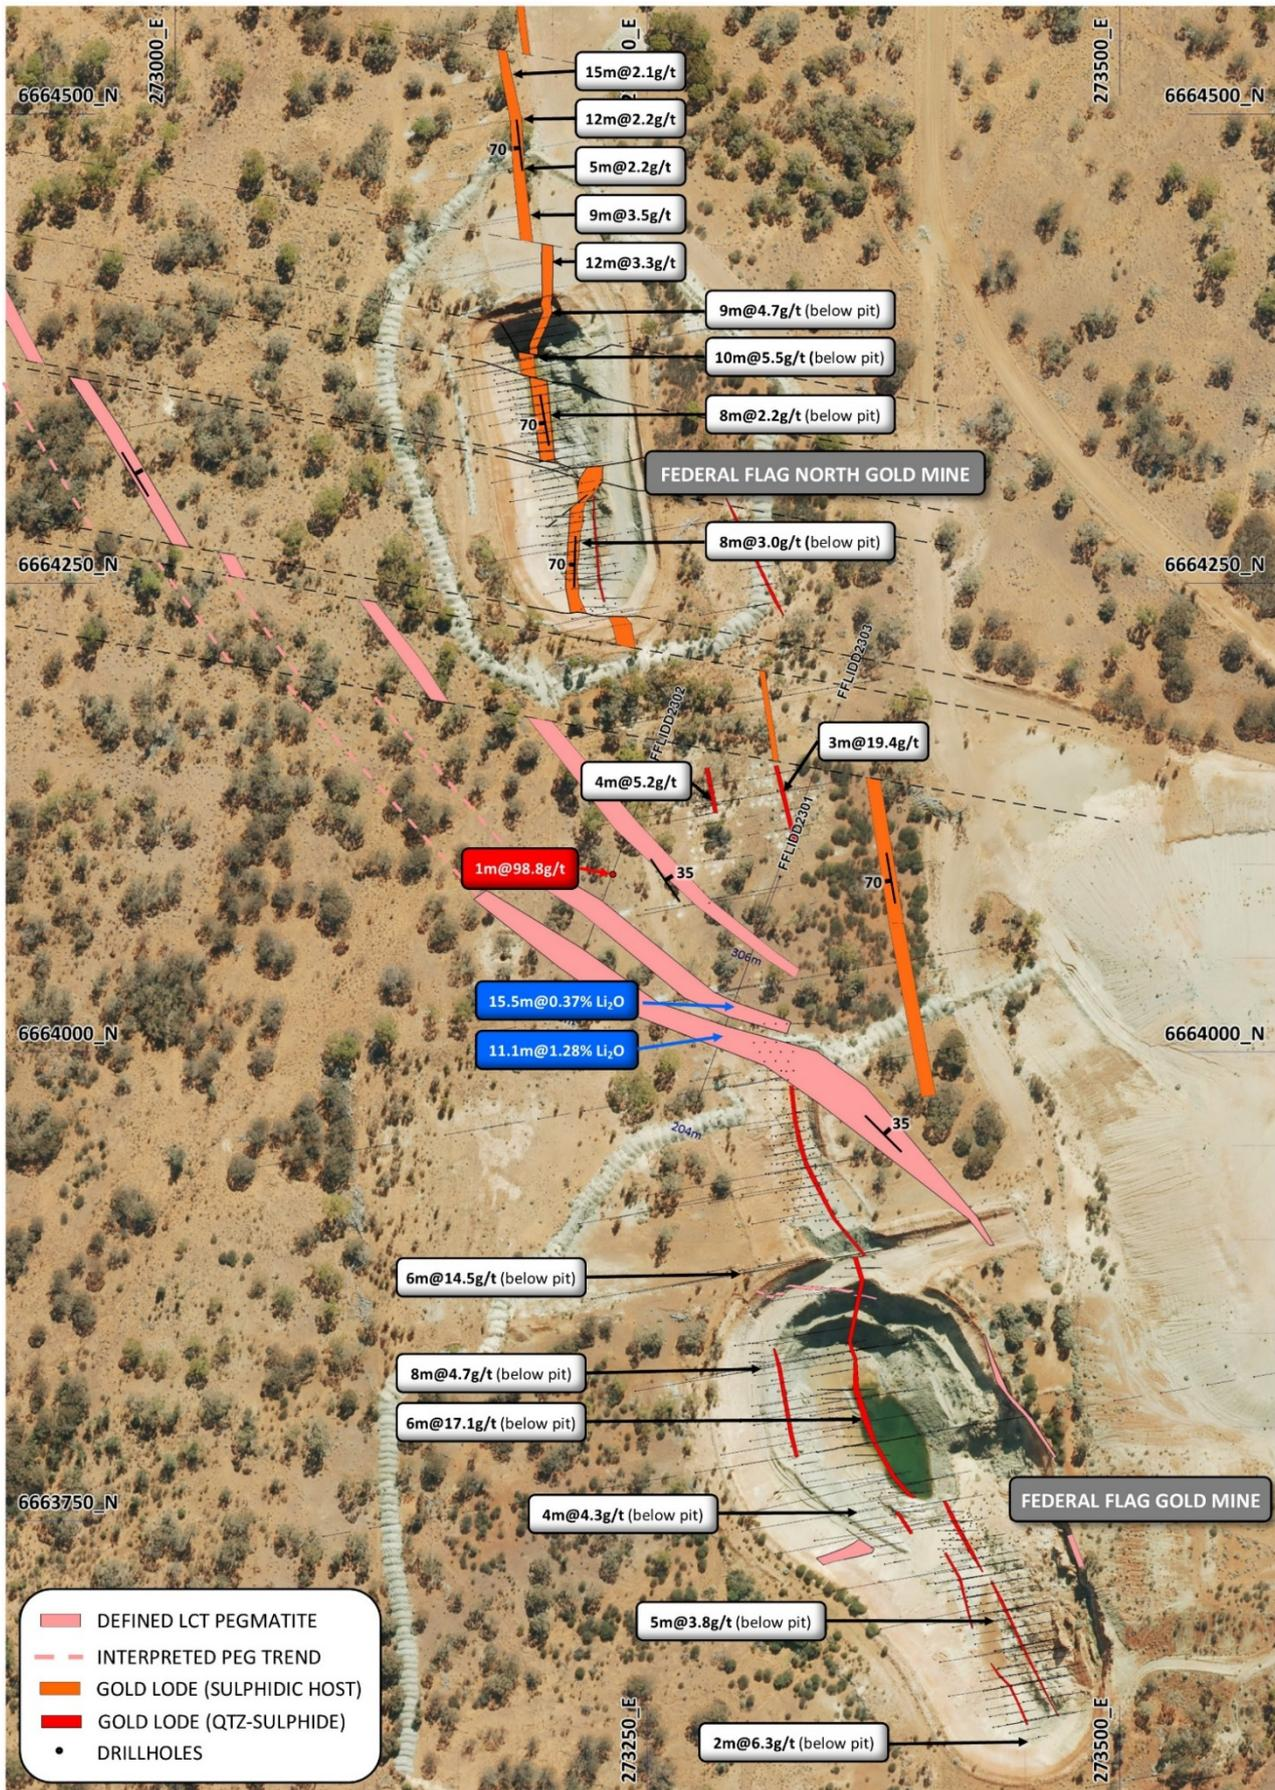

Figure 6 – Plan of Federal Flag showing pegmatite hosted lithium and known gold lodes with recent and historical drill intersections.
- Historical holes demonstrate potential for underground gold mining (see Figure 6)
- New intersection north of the existing pit returned (see Figure 6)